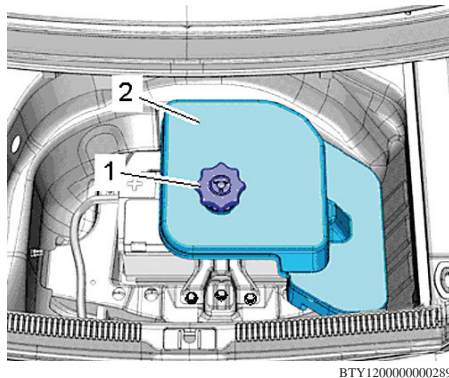

Fig. 1 Tool kit cover removal.
- b. Remove nut (1) and tool kit cover (2), **Fig. 1**.